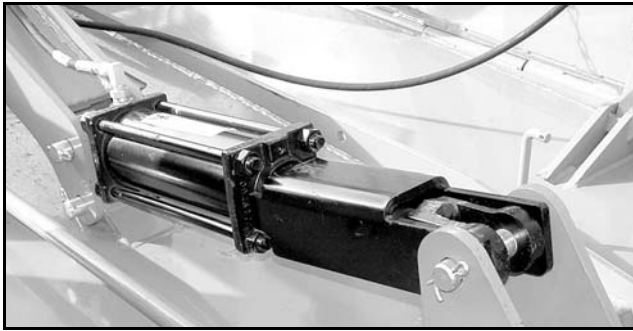

Figure 4. Transport Lock In Transport Position
2. Rotate transport lock into position over cylinder rod (Figure 4).